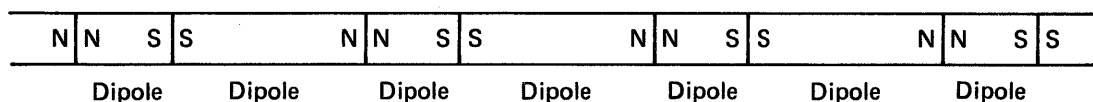

Figure 44. Magnetic pattern on the servo surface
11. The magnetized spots on the surface generate signals called dibits. The term dibit (or *dī bit*) is short for dipole bit, which means a pair of equal and opposite magnetic poles separated by a small distance. Note in figure 44 that each dipole is reversed from the previous dipole; the servo surface is recorded at the factory in that manner.